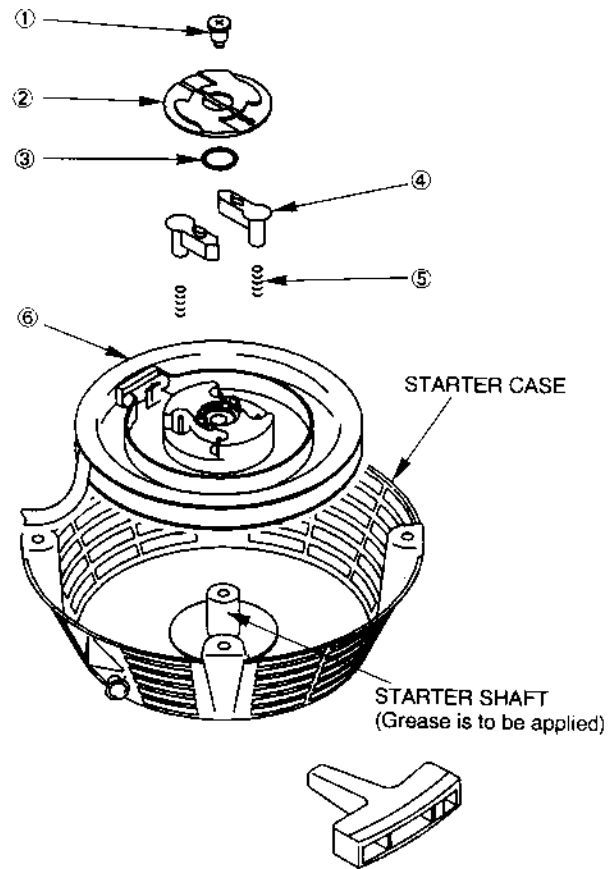

Fig. 71
- (5) Remove each part in accordance with Fig. 71
Reassemble the parts in reverse order of disassembling shown in Fig. 71